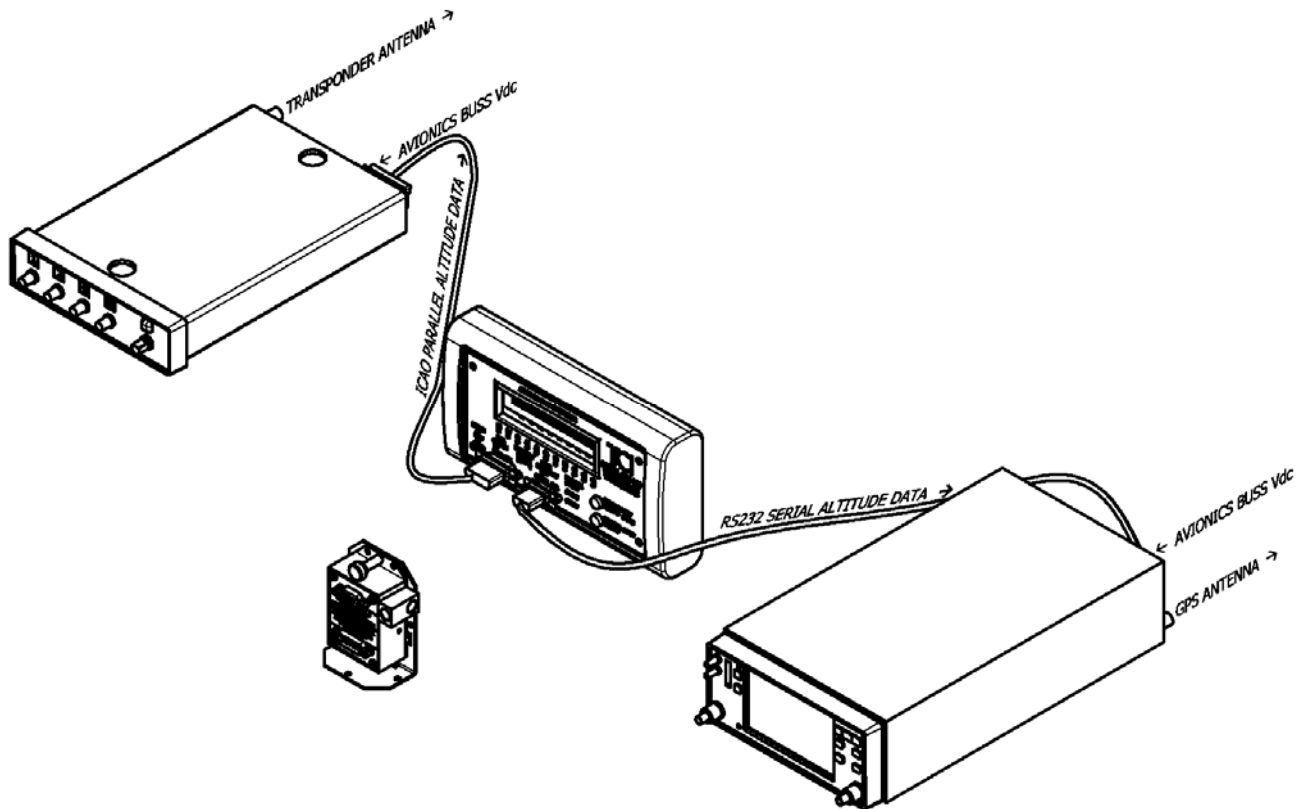

Figure 2
Step 1: With the **ADS-100** and the avionics buss system power **off**, simply substitute the ADS-100 for the altitude encoder, as shown in **Figure 2**. The ICAO altitude data output connector and the serial data output connector are wired identically to most Trans-Cal altitude reporting devices. The connector pin assignments are found in **Table IX**. Connect an acceptable ramp test set to observe the transponder output as per the manufacturer's instructions. The GPS or other device may or may not display the serial altitude data. Consult the manufacture's installation and operation manual to determine the test set-up or other conditions to be complied with.